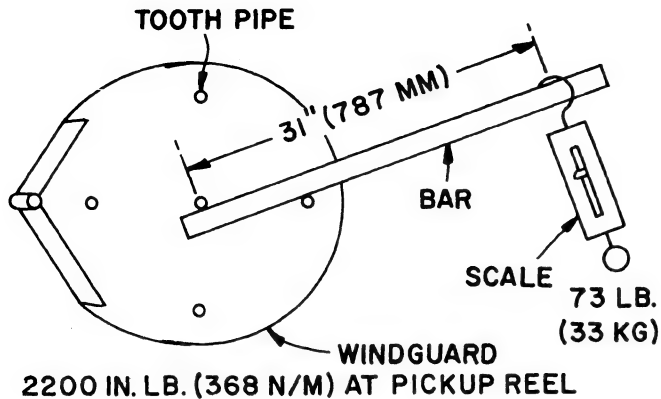

FIGURE 35
1. Insert a 32"-34" (813-864 mm) bar into the pick-up (between pick-up guards) as shown in Figure 35.